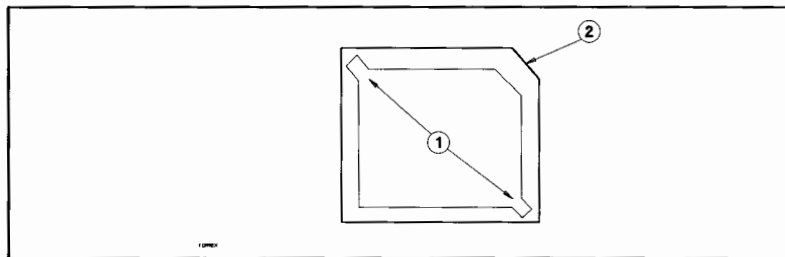

Figure 8-59. Firmware ROM Socket
To remove the firmware ROM (see Figure 8-59):
1. Insert the tapered end of the extraction tool, part no. 8710-1982, into one of the extraction slots in the socket (see Figure 8-59).
To replace the firmware ROM (see Figure 8-59):
1. Match the beveled corner of the ROM with the locator key in the socket (see Figure 8-59).